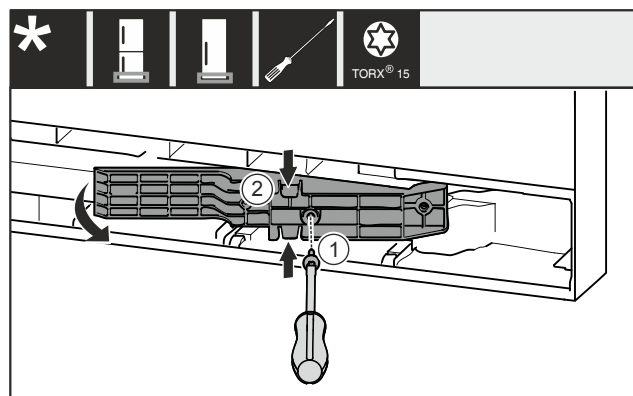

Fig. 20 *
- Remove the screw Fig. 20 (1).*
- Gently press the adapter piece Fig. 20 (2) together at the top and bottom and pull it out.*